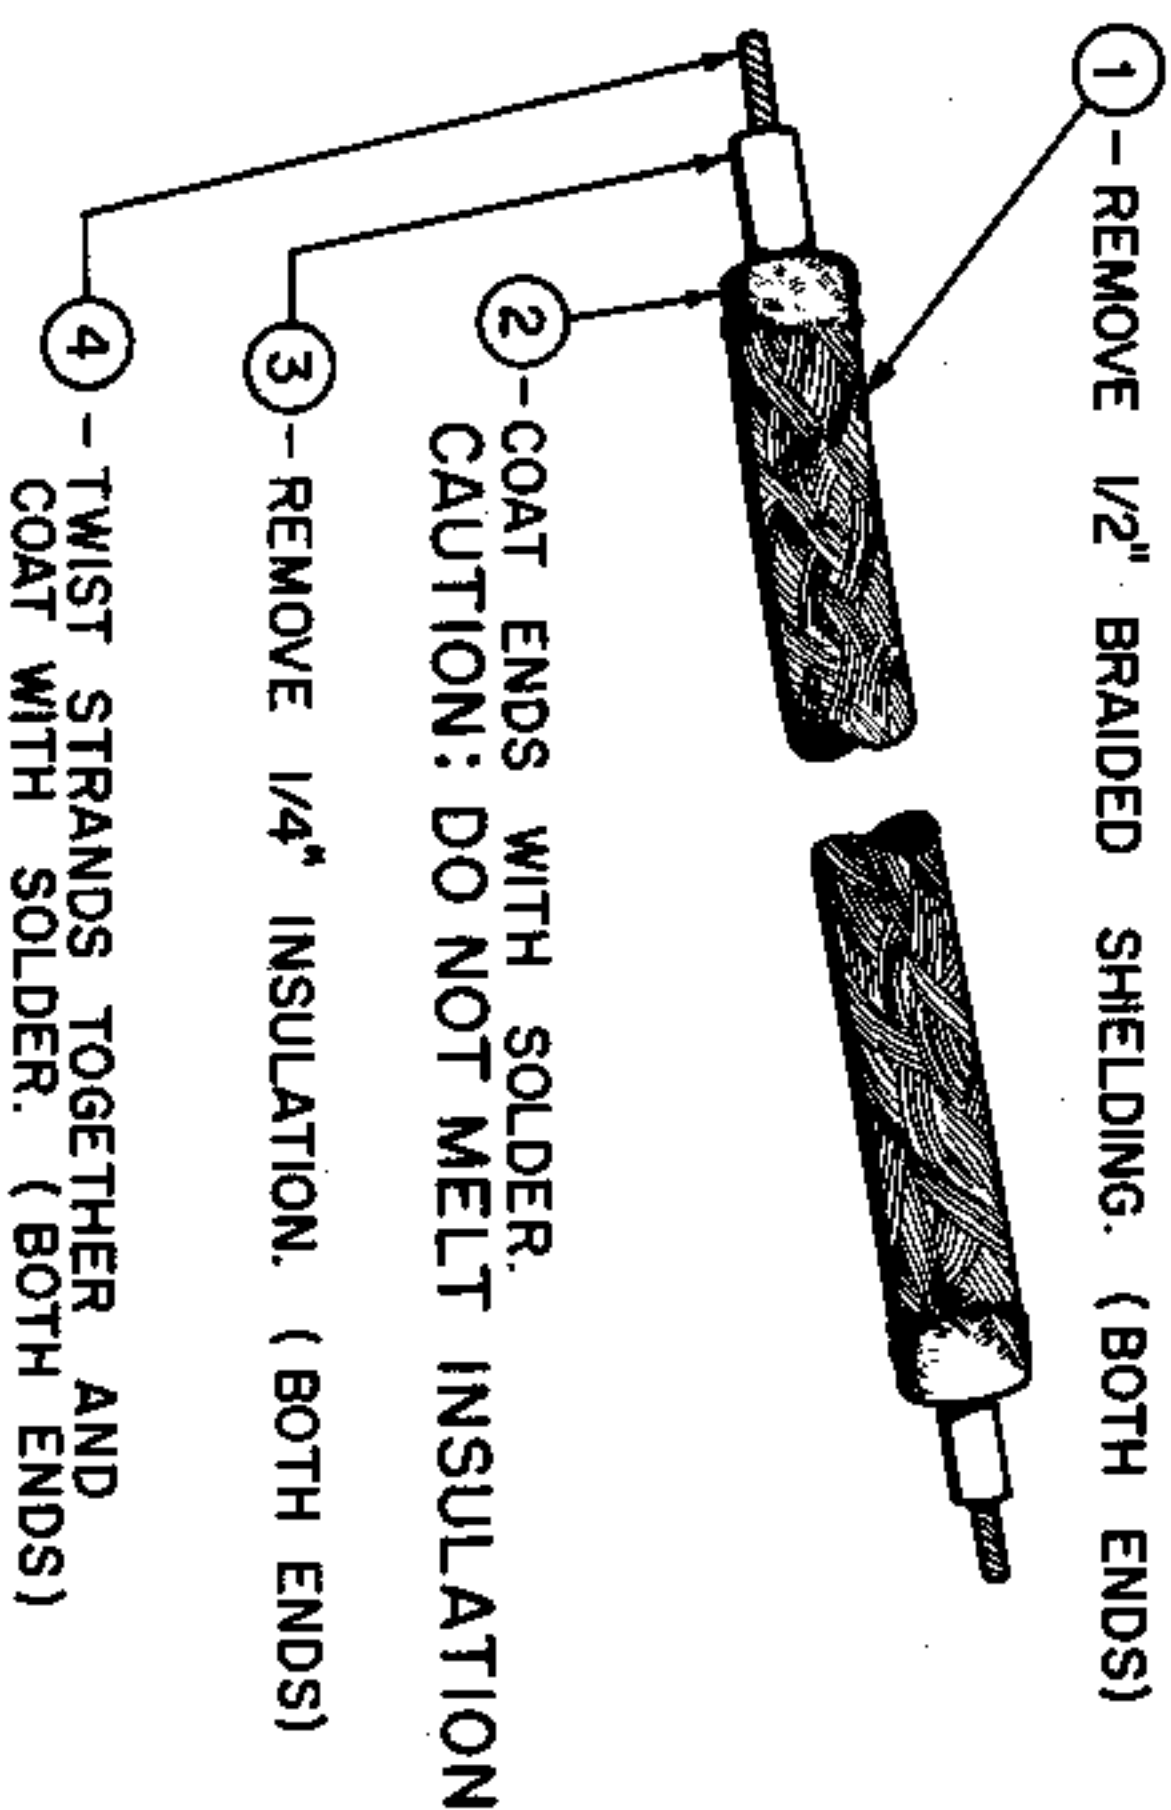

FIGURE 7. PREPARING UNINSULATED SHIELDED WIRES
- Cut an 8 1/4", an 8", and an 11 1/2" length of uninsulated shielded wire. Prepare as shown in Figure 7.
- Cut and prepare a 5" shielded wire as shown in Figure 7.
- Prepare a 6" uninsulated shielded wire as shown in Figure 7.